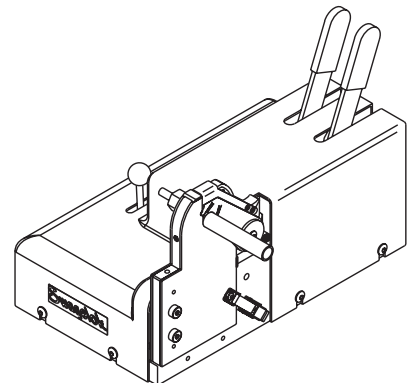

Figure 27 *Clamping the Work Piece*
7. Clamp the work piece into place. See Figure 27.